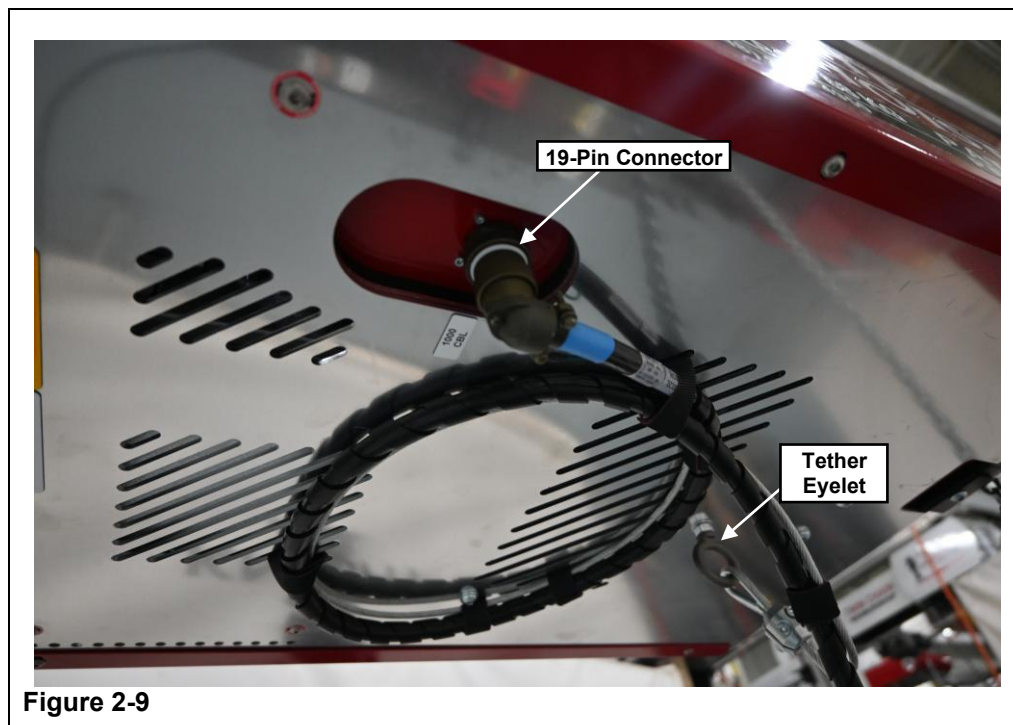

Figure 2-10 Pendant with dual analog levers P/N# KCA1214
- 12) Tighten barrel clamp bolts, alternating between bolts until snug. After barrel clamp bolts are snug torque to 4.3 ft/lbs. [5.83 nm]. (See Figure 2-10 for final assembly)